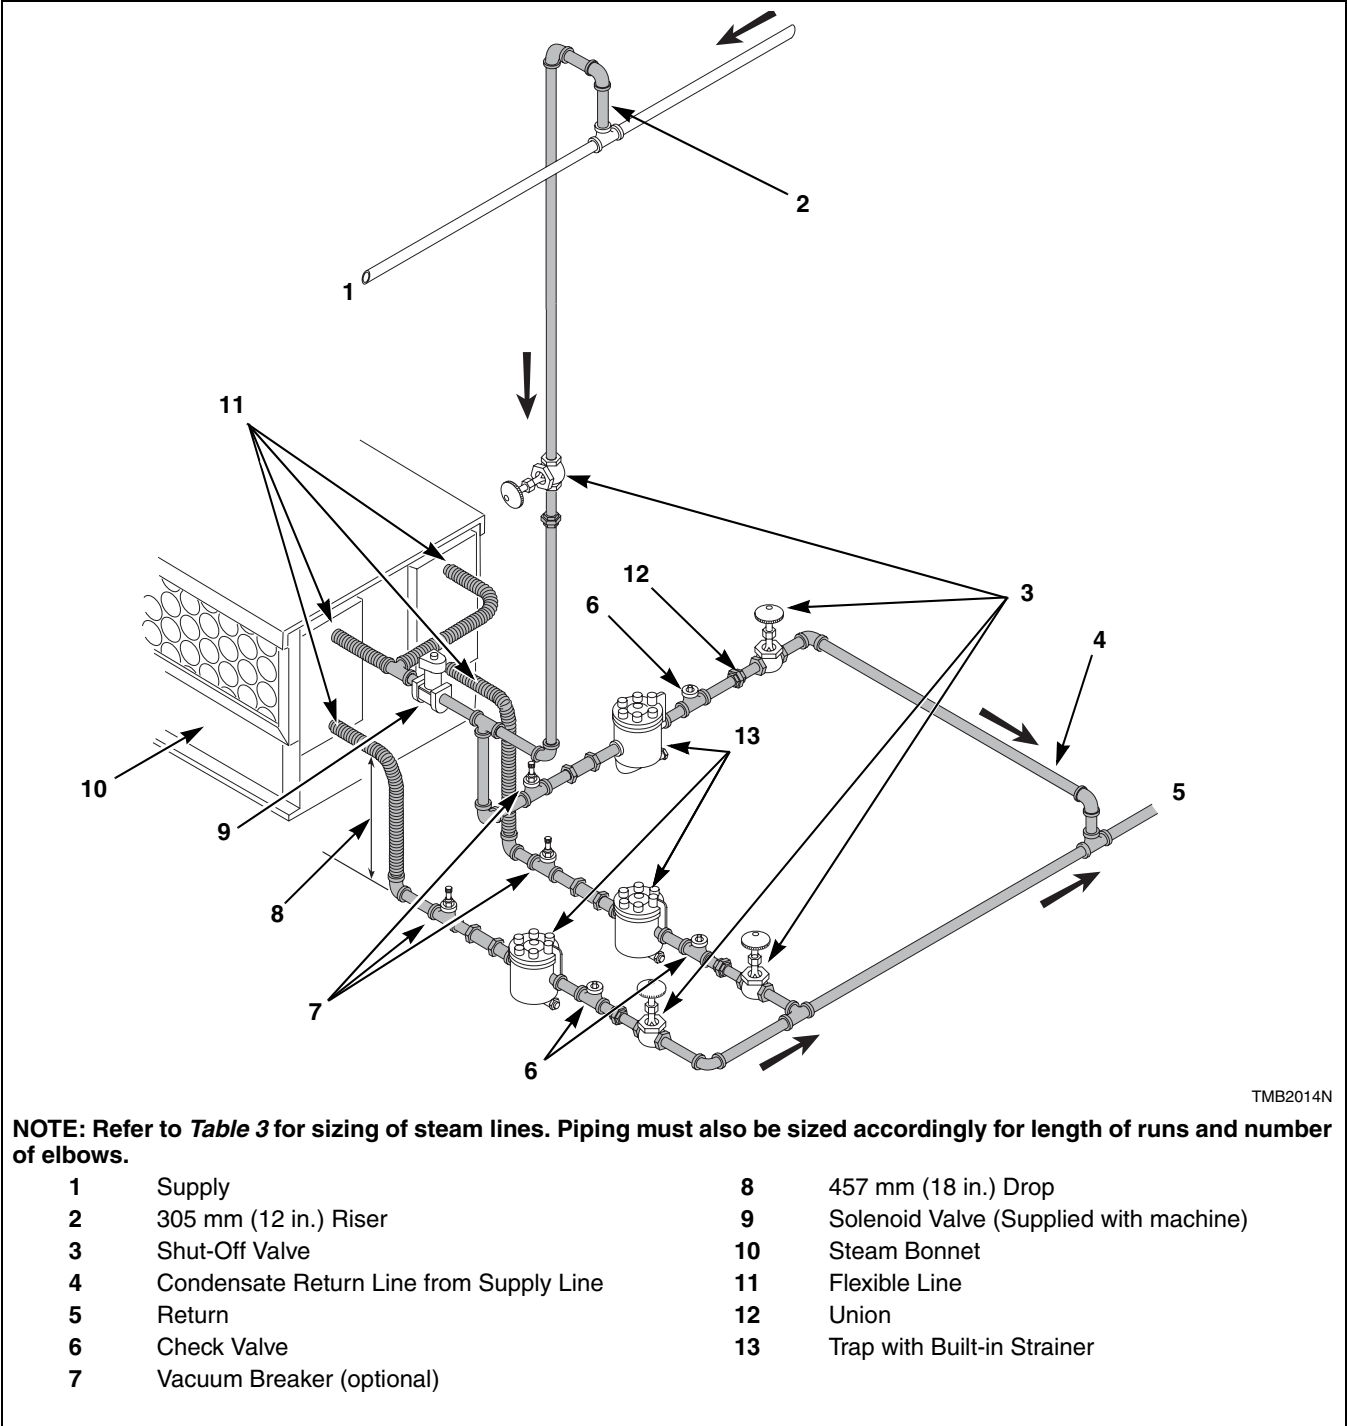
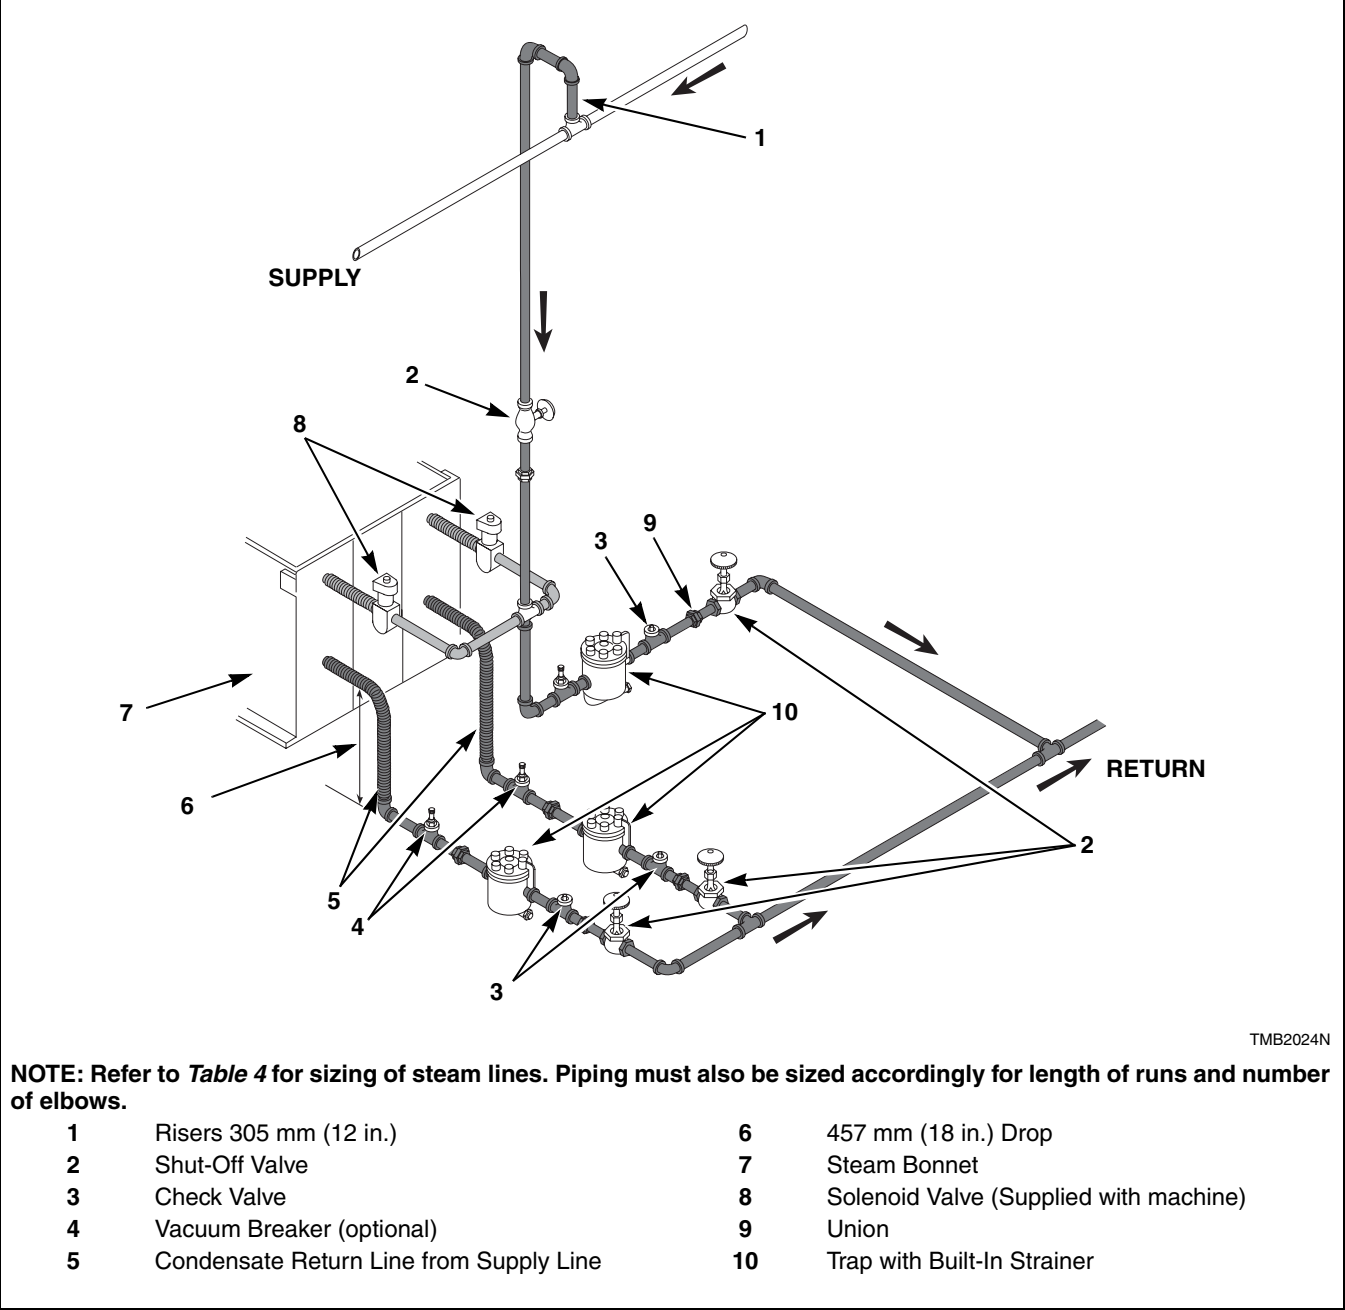

Figure 3
Figure 4
- Refer to *Figure 3* and *Figure 4* for proper steam pipe configurations.